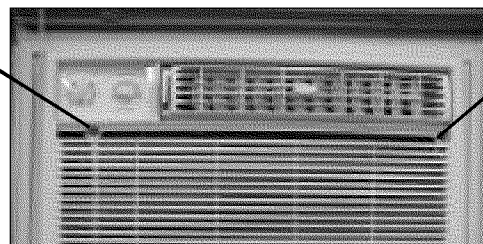

FIG. 3
The vent control handle is included in the decorative front kit (Fig. 3). The handle must be installed before the decorative front is attached. See illustration below.
- Install front retaining screw(s) behind the filter handle or filter & panel (Figs. 3 & 4).